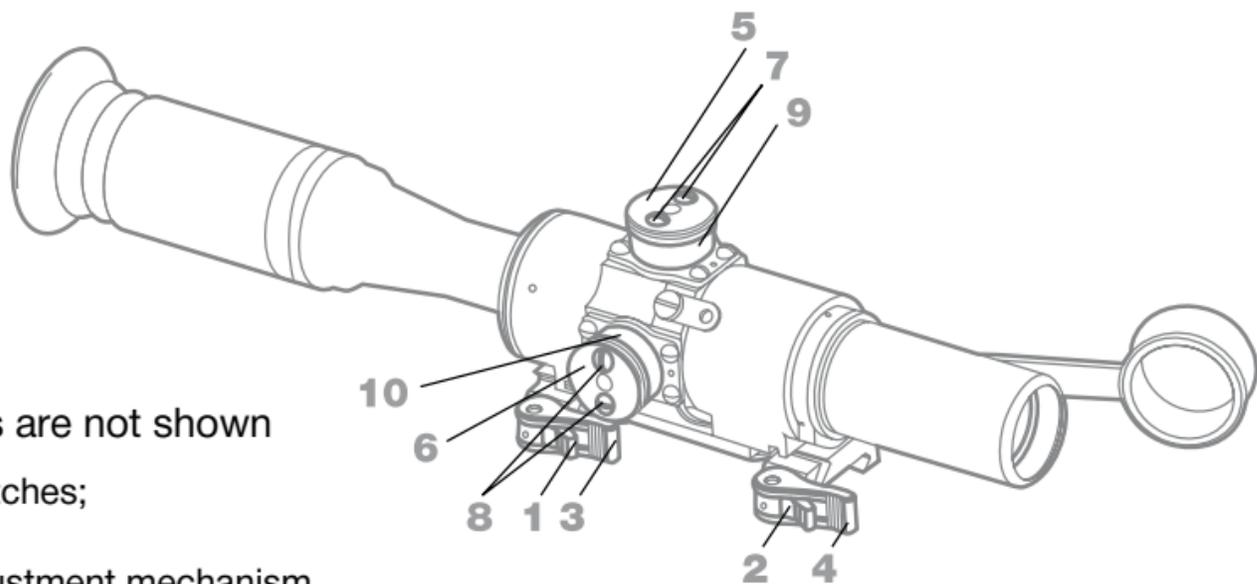

Figure 1
- press the bracket latches 1, 2 (Figure 1) one at a time and open (turn) the handles 3, 4;
- set the elevation adjustment mechanism handwheel 5 (Figure 1) of the sight at the point «1», the windage adjustment mechanism handwheel 6 - at the point «0»;
- otherwise, unscrew the screws 7, 8 (Figure 1) by 1-2 turns on elevation and windage adjustment mechanism handwheels and align the aiming mark with the aiming point of the iron sight by turning the handwheels (while holding scales 9, 10 in the initial position);
- carefully screw in the screws 7, 8 (Figure 1) of handwheels up to the stop and check again the coincidence of the sight reticle aiming mark with the aiming point of the iron sight. Repeat adjustment, if necessary;